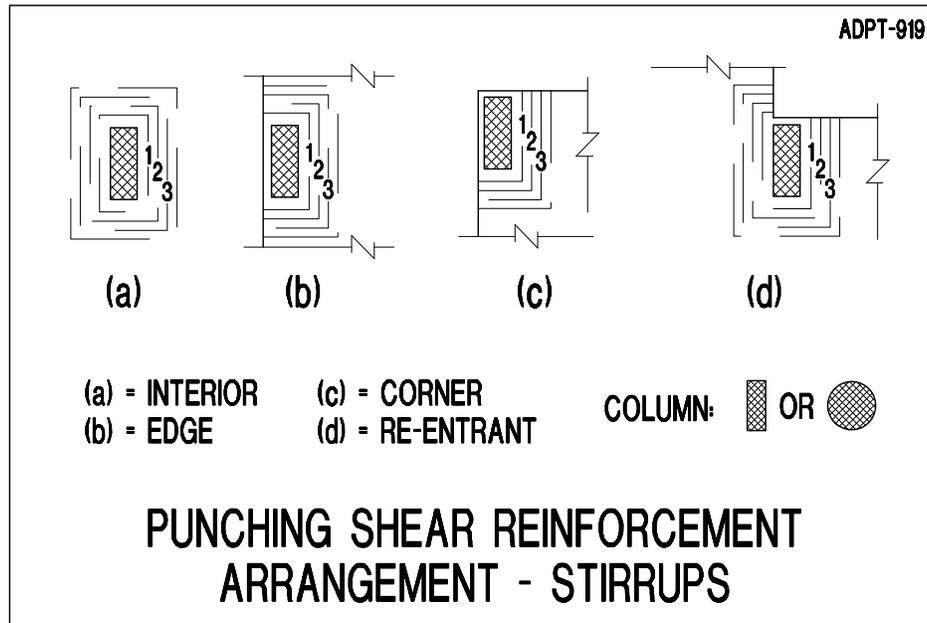

Figure 10.5-6 - Arrangements of Punching Shear Reinforcement Using Stirrups
- Distance (9)15.75 indicates layer 9 at distance 15.75 in
- Legs (9) 12 indicates layer 9 with 12 vertical legs
- Distance (9)15.75* indicates layer 9 at distance 15.75 in measured from the face of drop caps
- Refer to details for arrangement (**Fig 10.5-6**).